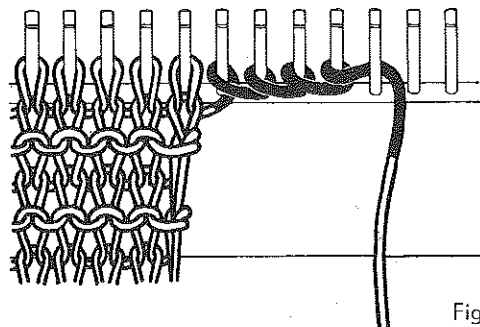
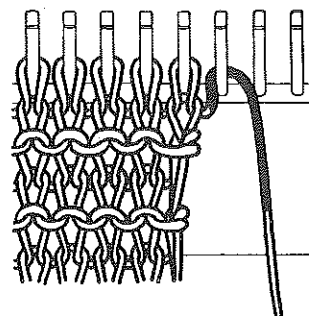

Fig. 20
Fig. 21
Q. **Increasing** is always done in the same way as casting on. (Fig. 20.) If increasing by a single stitch, the wool must be put in from left to right around behind the comb-pin. (Fig. 21.) Increasing is always done on the **Right Hand Side Of The Work**.